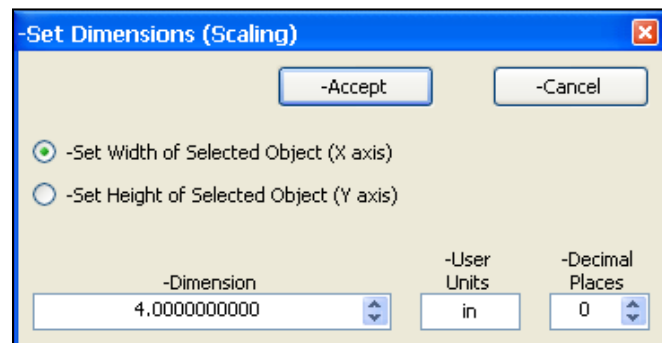

Figure 7 - Set Dimensions window
4. In the "Set Dimensions" window (see Figure 7), select either "Set Width" or "Select Height", based on which dimension the user knows. Only the height or the width can be entered, and the other will be calculated automatically.